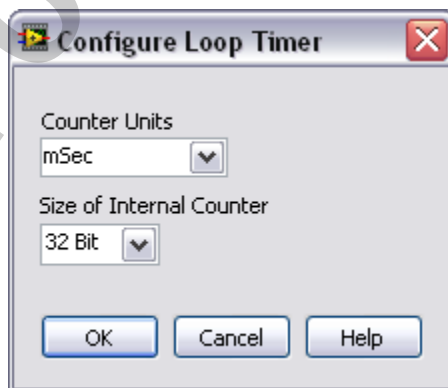

Figure 5-3. Configure Loop Timer
- In the Configure Loop Timer dialog box, set Counter Units to **mSec**, as shown in Figure 5-3, and click **OK**.